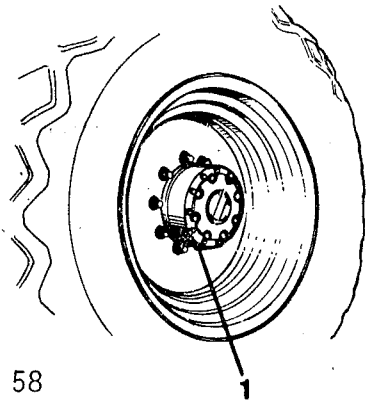

Fig 58
- 1 Drive the roller onto a level surface, so that the oil level plug is in the lowest position shown in fig 58, and stop the engine.